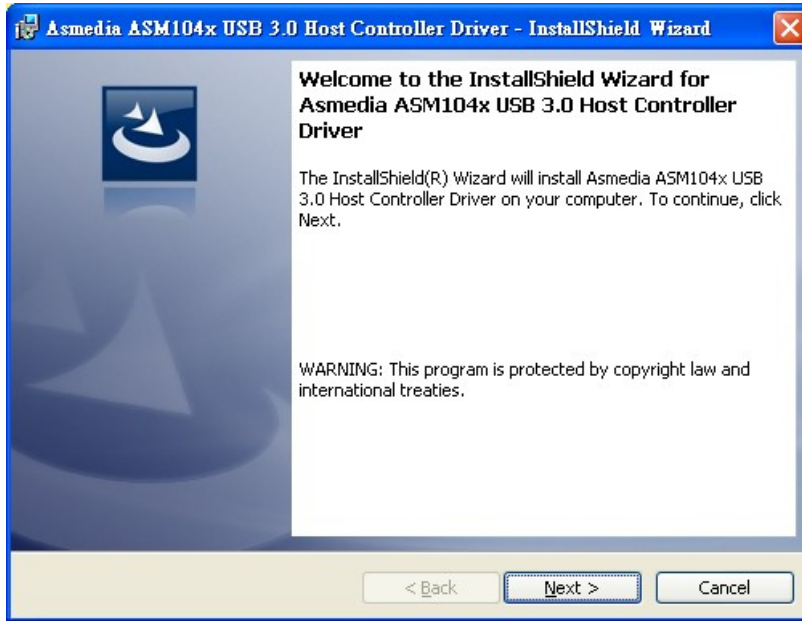

Figure 6-31: USB 3.0 Driver Welcome Screen
- Step 4:** A **Welcome Screen** appears (**Figure 6-31**).